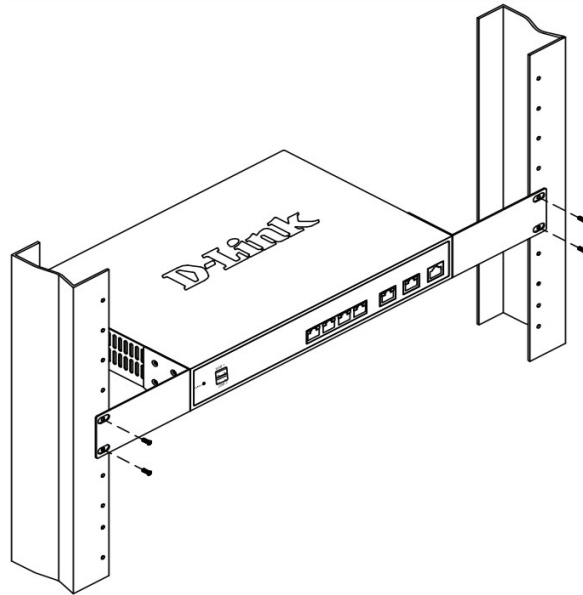

Figure 4. Install the Wireless Controller in a standard-sized equipment rack
2. Then, use the screws provided with the equipment rack to mount the device in the rack as shown in Figure 4.